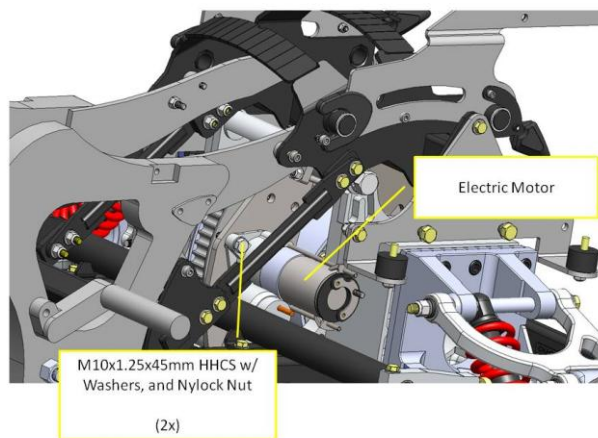

Figure 6
- k. Install the electric motor onto the bracket using two M10x1.25x45 HHCS, w/washers, and nylock nuts which is shown in Figure 6. Torque to 32ft-lbs.